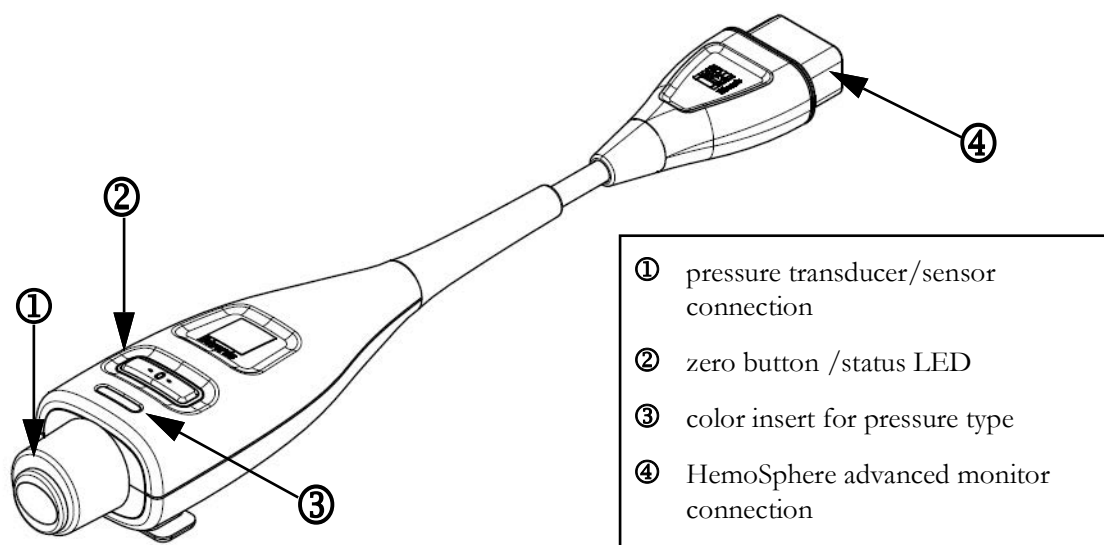

Figure 10-1 HemoSphere pressure cable
The HemoSphere pressure cable is a reusable device that connects with the HemoSphere monitor on one end ④ and any approved single Edwards disposable pressure transducer (DPT) or sensor on the other end ①. See figure 10-1 on page 182. The HemoSphere pressure cable acquires and processes a single pressure signal from a compatible Edwards DPT, such as the TruWave DPT, or a FloTrac sensor. A FloTrac, FloTrac Jr or Acumen IQ sensor connects to an existing arterial catheter to provide minimally invasive hemodynamic parameters. A TruWave transducer can connect to any compatible pressure monitoring catheter to provide location based intravascular pressure. Refer to the directions for use provided with each catheter for specific instructions on catheter placement and use, and for relevant warnings, cautions and notes. The HemoSphere pressure cable can be monitored through two technology monitoring modes based on the paired sensor/transducer: **FloTrac**, **FloTrac Jr**, or **Acumen IQ** sensor monitoring mode or **Swan-Ganz** catheter monitoring mode. The monitoring mode appears on the top of the navigation bar (see figure 5-2 on page 92). The appearance and connection points for the HemoSphere pressure cable are shown in figure 10-1.
Pressure Type Color Insert. If desired, the appropriate color insert can be used on the pressure cable to indicate the monitored pressure type. See ③ in figure 10-1 below. The colors are as follows:
- Red for arterial pressure (AP)
- Green for cardiac output (CO)
- 7 Use a straight in or out motion to connect the green connector of the primed FloTrac/FloTrac Jr sensor. The pressure cable LED that surrounds the zero button (see ② in figure 10-1) will flash green indicating that the pressure sensor is detected. A yellow light indicates a fault condition. If this occurs refer to the status bar for specific fault condition details.
Press the physical zero button  directly on the pressure cable and hold for three seconds (see figure 10-1).